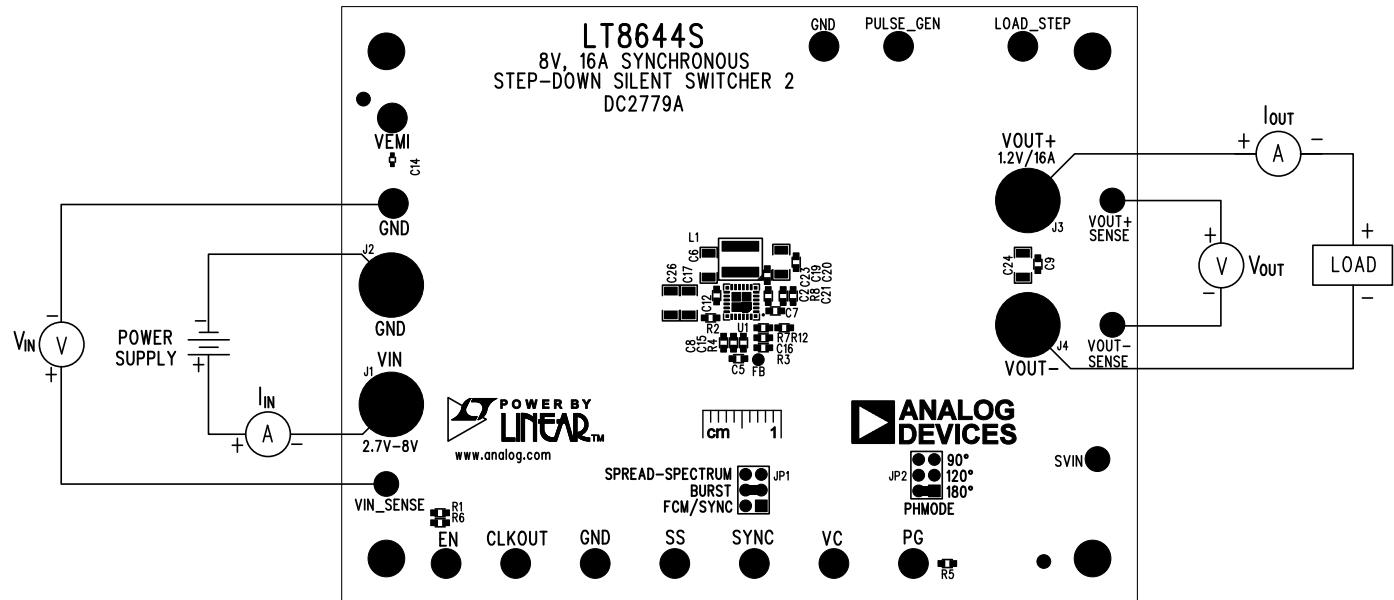
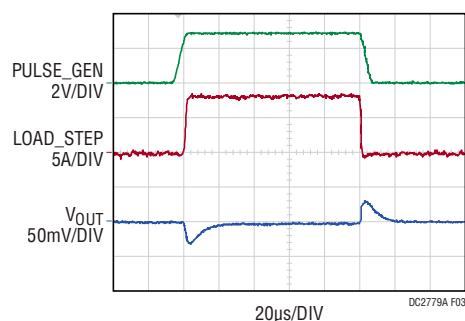

Figure 1. Proper Measurement Equipment Setup
Figure 3. LT8644S Demo Circuit DC2779A Transient Response ($V_{IN} = 5V$, 4A to 12A Load Step)
Demonstration circuit 2779A is easy to set up to evaluate the performance of the LT8644S. Refer to Figure 1 for proper measurement equipment setup and follow the procedure below:
9. To test the transient response, connect a signal generator to PULSE GEN terminal, and add a desired base load between V_{OUT+} and V_{OUT-} (LOAD shown on Figure 1). Adjust the signal generator with a 2ms period, 5% duty cycle and an amplitude from 1V to 2V to start. Measure the LOAD STEP voltage to observe the current ($I_{LOAD_STEP} = V_{LOAD_STEP}/10\text{m}\Omega$). Adjust the amplitude of the pulse to provide the desired transient. Adjust the rising and falling edge of the pulse to provide the desired ramp rate. Figure 3 shows a load step from 4A to 12A. The 4A base load is added between V_{OUT+} and V_{OUT-} , while the 8A step load is controlled by the signal generator at PULSE_GEN and measured at LOAD_STEP with 0.01V/A ratio.